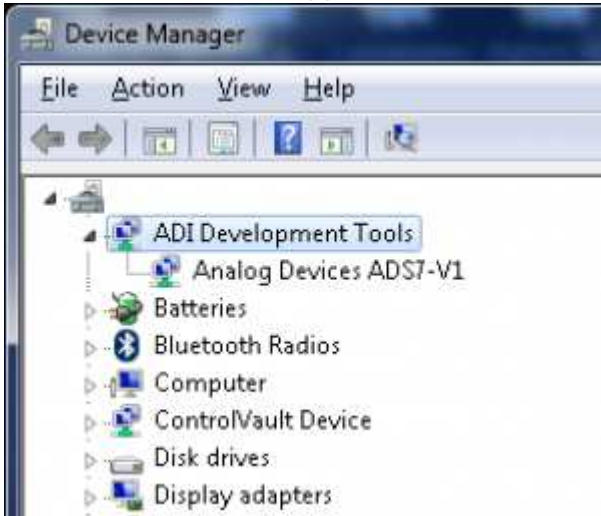

Figure 3. Device Manager showing ADS7-V1EBZ
- The ADS7-V1EBZ will appear in the Device Manager as shown in Figure 3.